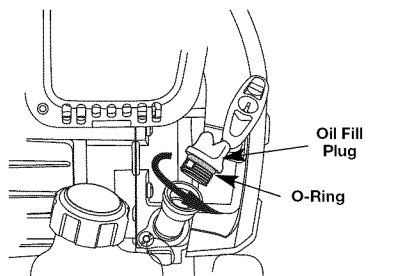

Fig. 9
1. Unscrew the top of the bottle of oil and remove the paper seal covering the opening. Replace the top. Next, cut the tip off the funnel spout (Fig. 9).
2. Remove the oil fill plug from the crankcase (Fig. 9).